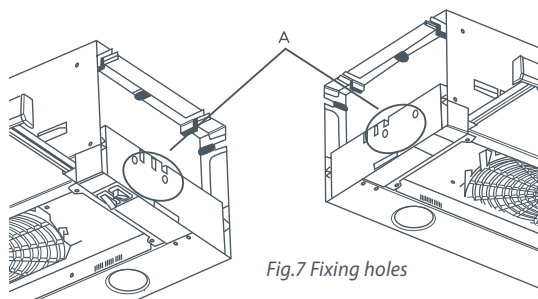

Fig.7 Fixing holes
- 1 Slide out the drawer and remove filter. You will see two mounting holes (A) running through the moulded sides (see Fig.7).